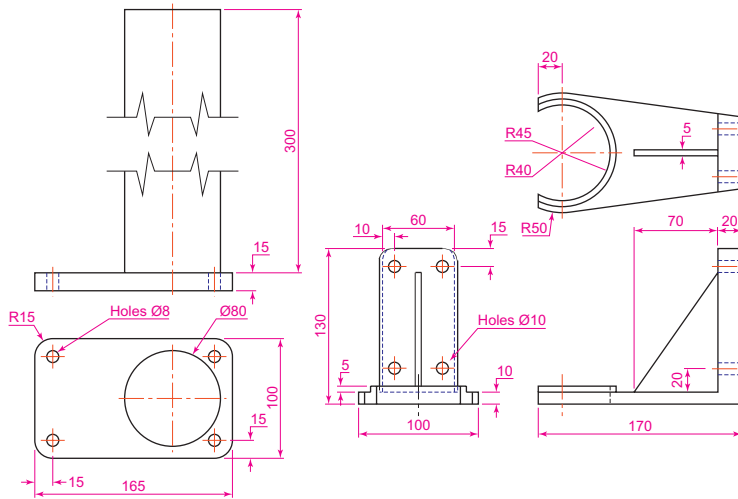

Fig. 15.38 Second example – Rendering – orthographic projection
1. Construct 3D models of the two parts of the stand and support given in the projections in Fig. 15.38 with the two parts assembled together.